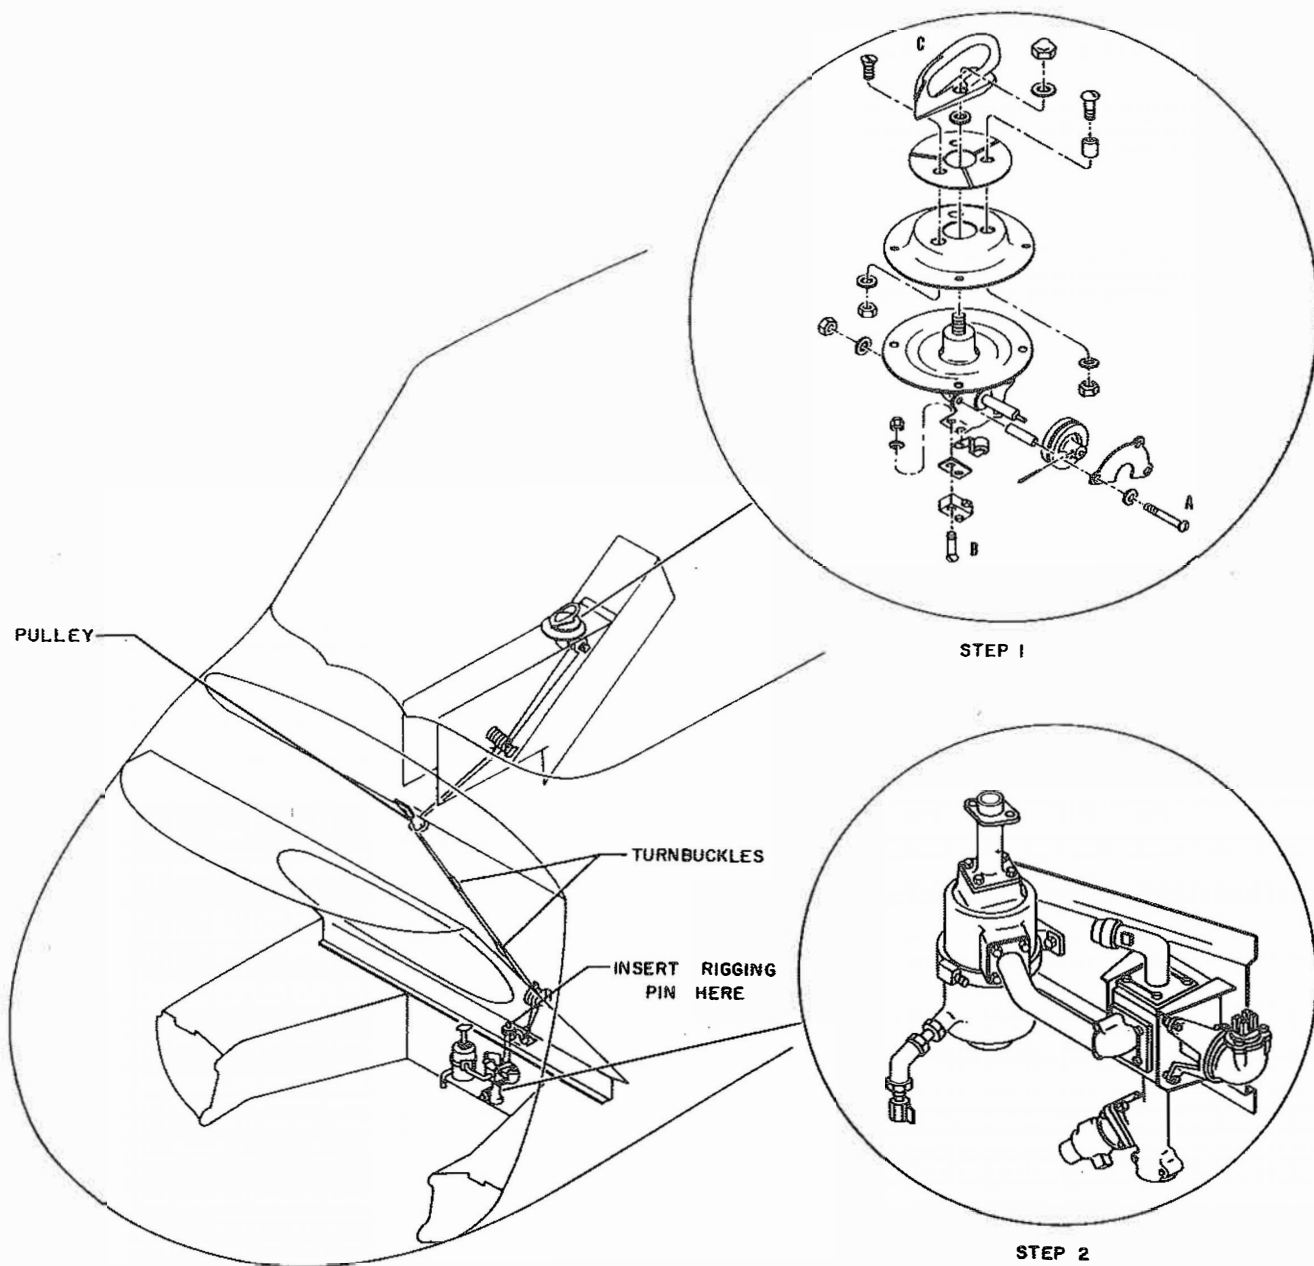

Figure 5-22. Fuel Selector Valve System
5-110. DESCRIPTION. (See figure 5-22.) The fuel selector valve system consists of the fuel selector valve and the fuel selector valve control. The fuel selector valve controls the flow of fuel from the fuel tanks to the engine. The selector valve is positioned in the line
(See figure 5-22.)
o. Remove the screws, washers, nuts and spacers at "A" (step 1, figure 5-22) that secure the plate to the gear box at the side of the pulley. Remove the plate.